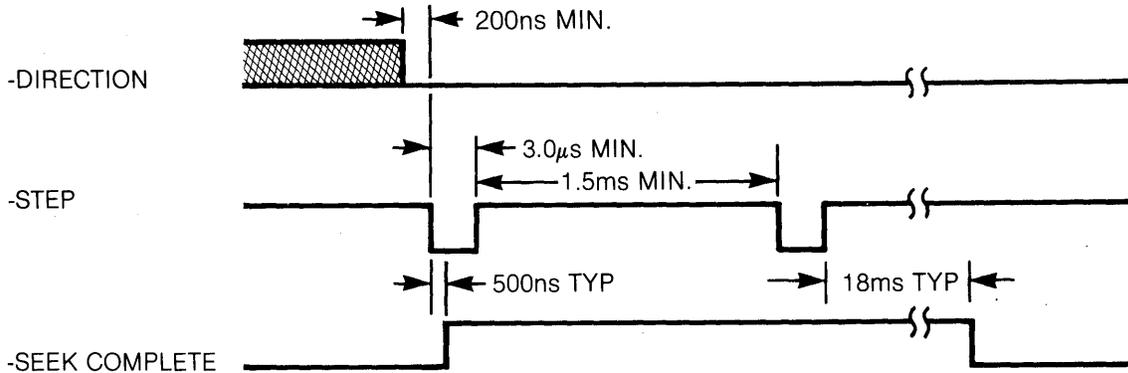

Figure 5 Normal Step Mode
- Normal Step Mode- In this mode, the read/write heads will move at the rate of the incoming step pulses. The minimum time between successive steps is 1.5ms, with a minimum pulse width of 3.0μs. Refer to Figure 5.